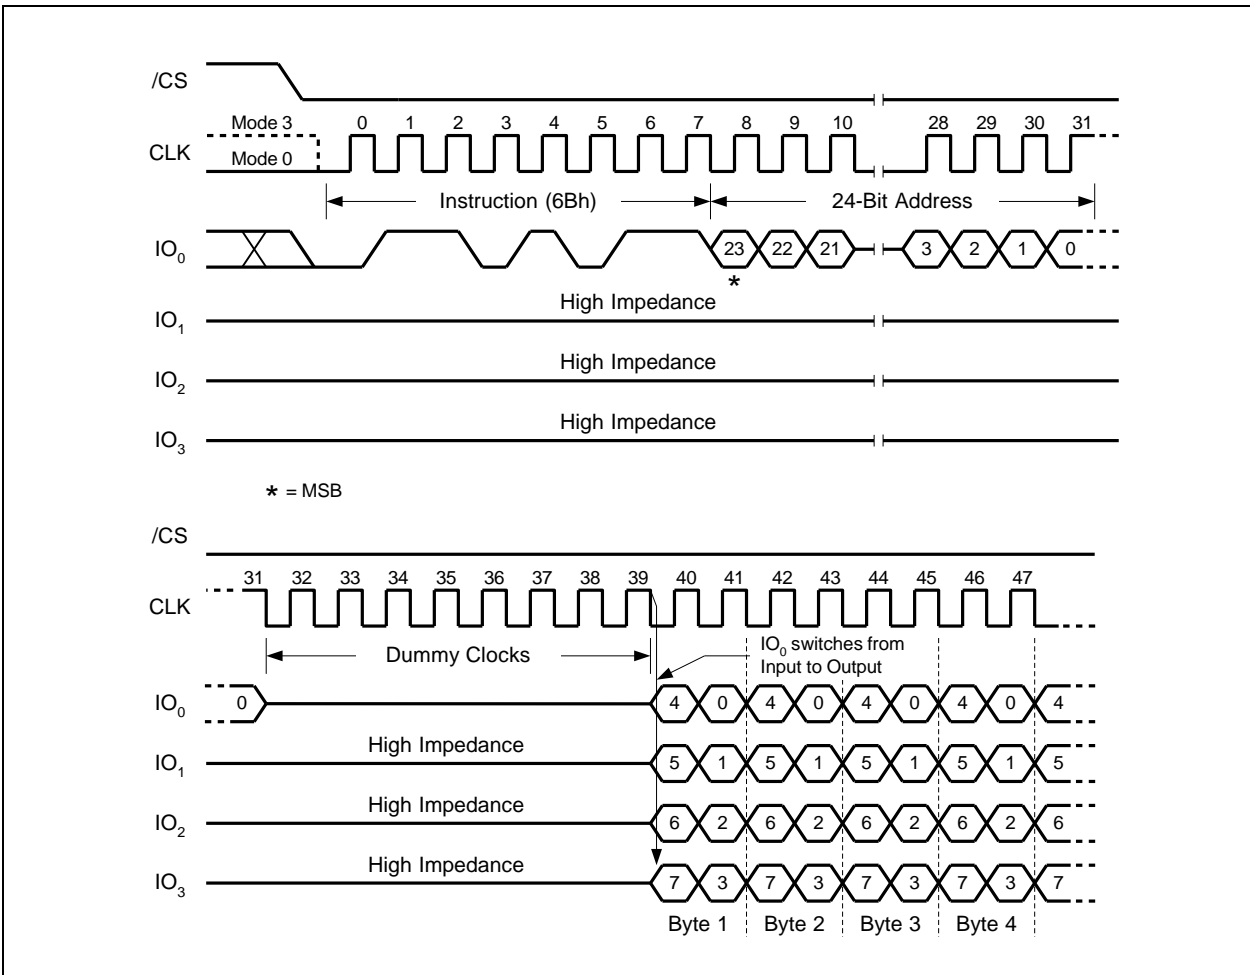

Figure 20. Fast Read Quad Output Instruction
8.2.9 The Fast Read Quad Output instruction can operate at the highest possible frequency of FR (see AC Electrical Characteristics). This is accomplished by adding eight “dummy” clocks after the 24-bit address as shown in Figure 20. The dummy clocks allow the device’s internal circuits additional time for setting up the initial address. The input data during the dummy clocks is “don’t care”. However, the IO pins should be high-impedance prior to the falling edge of the first data out clock.